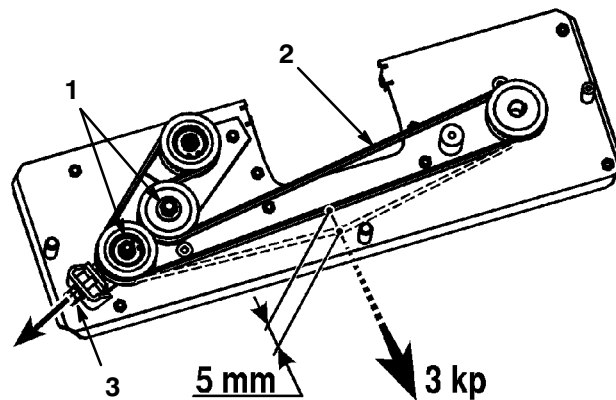

Figure 39
- Loosen the two hex nuts on the idler pulley (Fig. 39).
- Adjust the M10 nut until the belt flexes 5 mm with 3 kp of force (Fig. 39).